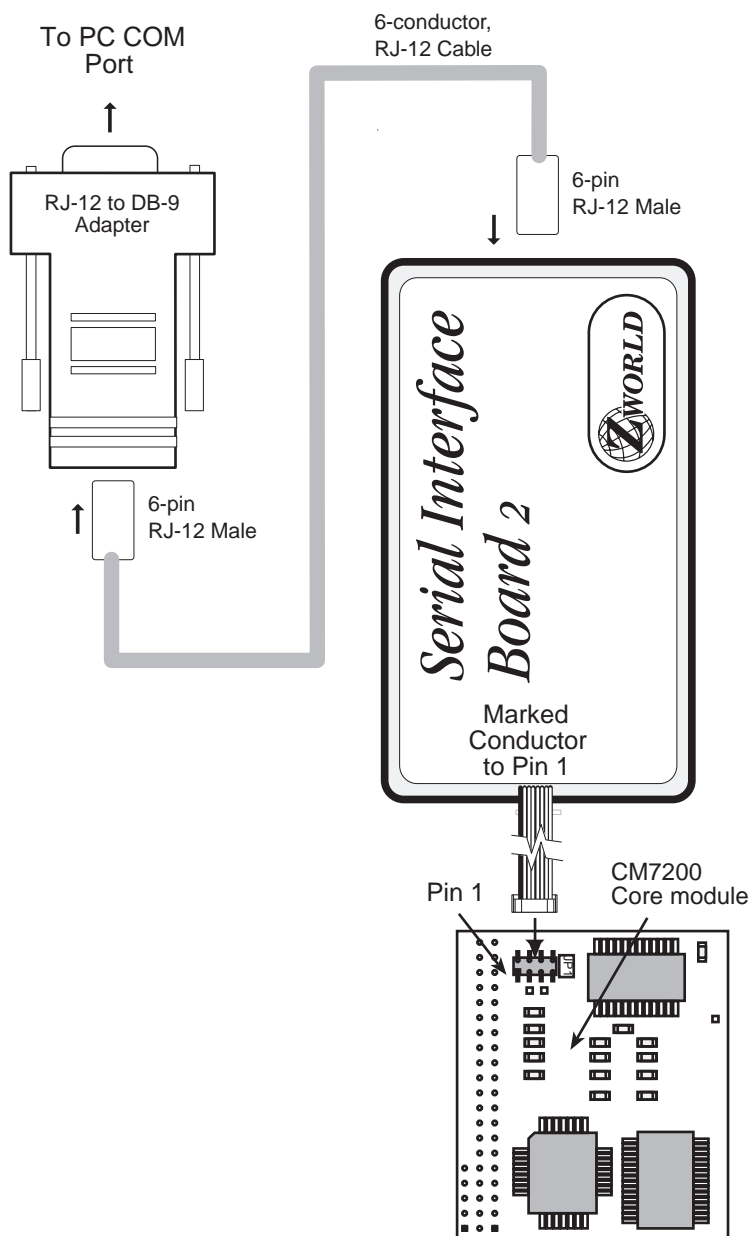

Figure 2-16. CM7200 Connection to Serial Interface Board 2
3. Connect the 6-conductor RJ-12 cable provided with the Developer's Kit from the PC serial-port adapter to the SIB2 as shown in Figure 2-16. Connect the 2 mm ribbon cable from the SIB2 to header JP1 on the CM7200. Be careful to match the arrow on the connector to Pin 1 of JP1.